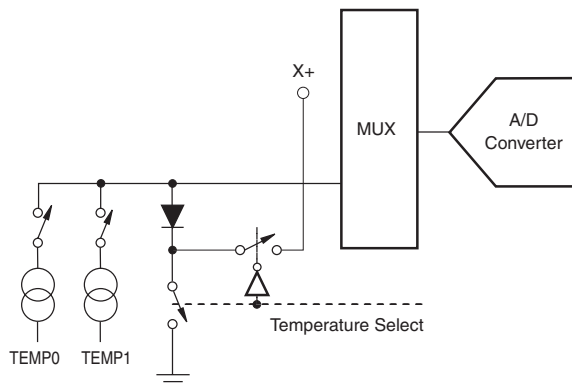

Figure 8. Temperature Measurement Mode Functional Block Diagram
The first mode requires calibrations at a known temperature, but only requires a single reading to predict the ambient temperature. A diode is used during this measurement cycle. The voltage across the diode is connected through the MUX for digitizing the diode forward bias voltage by the ADC with an address of C3 = 0, C2 = 0, C1 = 0, and C0 = 0 (see Table 1 and Figure 8 for details). This voltage is typically 600 mV at 25°C, with a 20-μA current through it. The absolute value of this diode voltage can vary a few millivolts; the temperature coefficient (TC) of this voltage is very consistent at -2.1 mV/°C. During the final test of the end product, the diode voltage would be stored at a known room temperature, in memory, for calibration purposes by the user. The result is an equivalent temperature measurement resolution of 0.3°C/LSB.